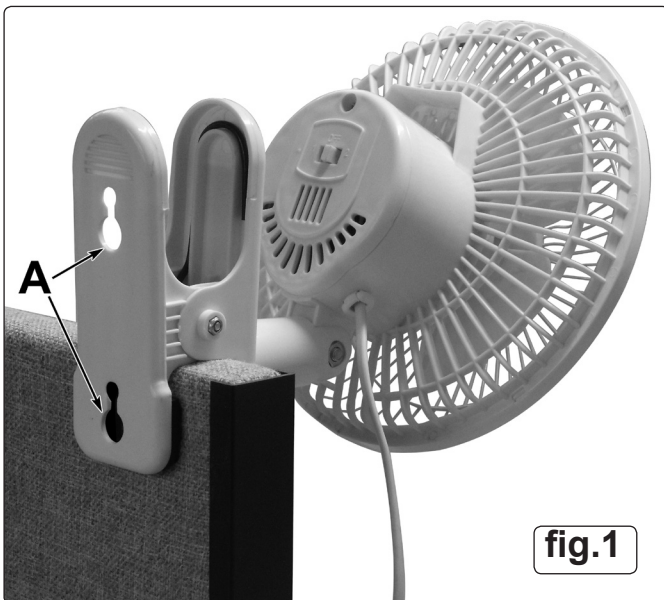

fig.1
- 3.1. Mount the fan in a suitable location, using the spring loaded clamp to attach it to a suitable table, shelf or other stable solid surface up to 36mm thick as indicated in figs.1 & 2.